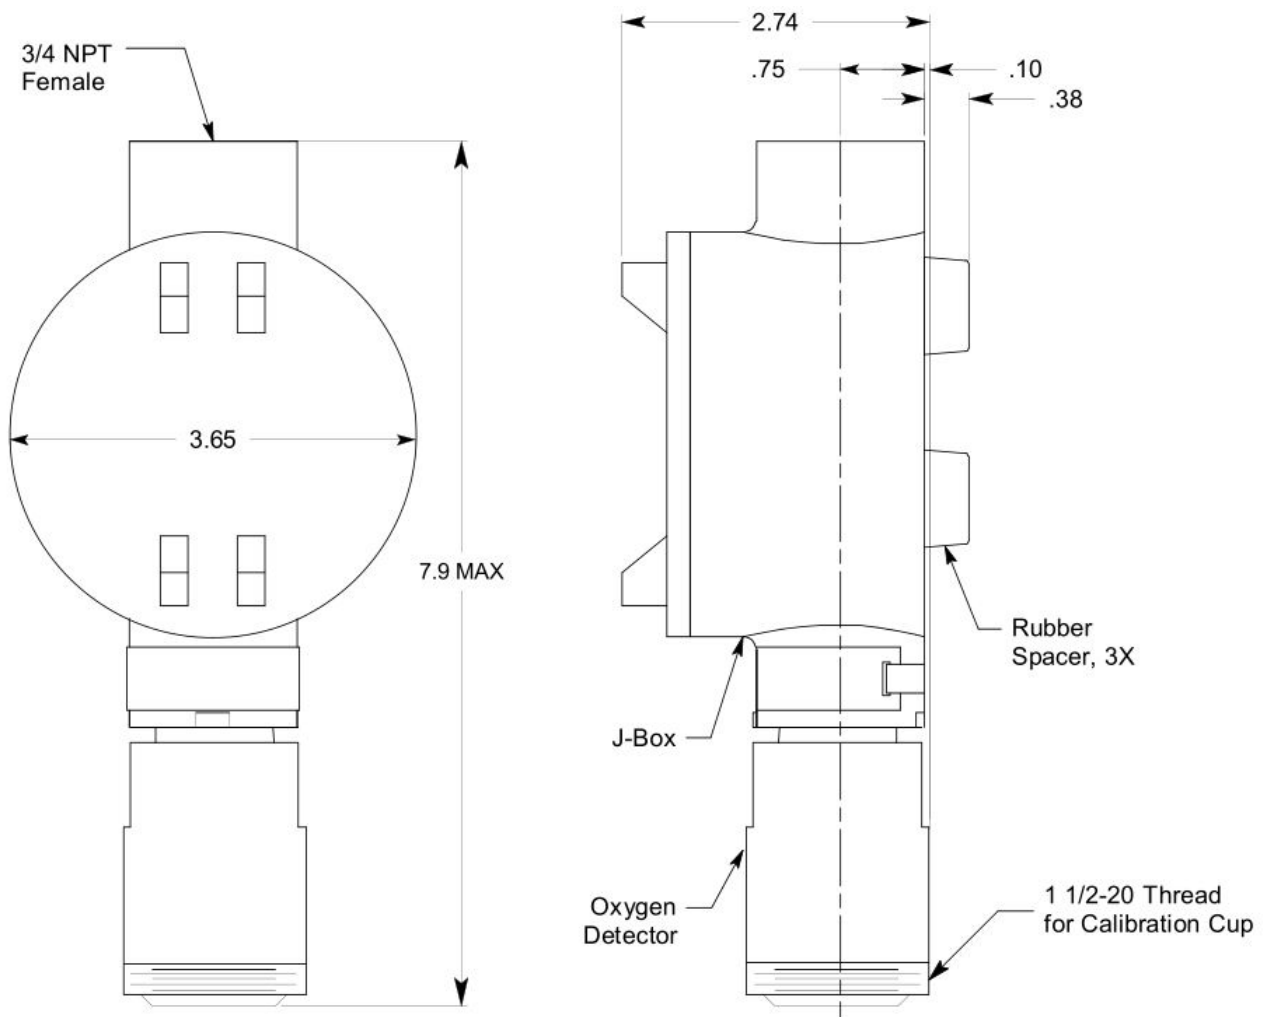

Figure 2: Mounting the Oxygen Transmitter
2. At the monitoring site you select, hang or mount the junction box with the detector facing down (see Figure 2).